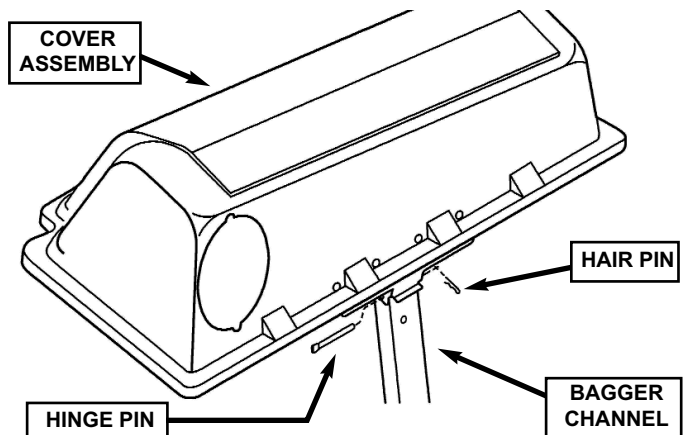

FIGURE 13
STEP 11: Attach the cover assembly to the bagger channel by aligning the holes in the cover hinge with the top set of holes in the bagger channel. Insert the hinge pin through the holes, and secure with a hair pin. See Figure 13.